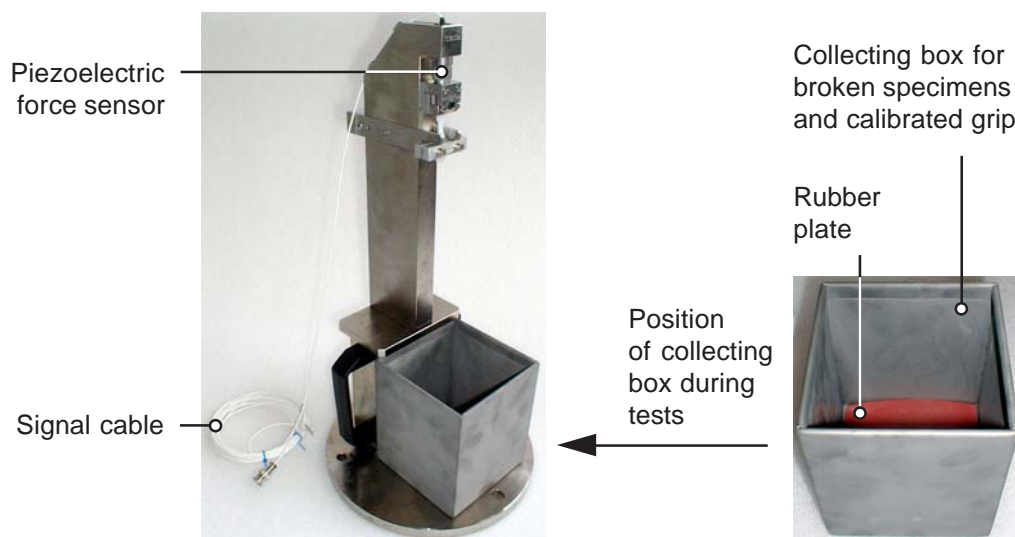

Fig. 2 - Fixed height vice support stand
- ▶ c) Remove the collecting box from the chamber (Fig. 2).